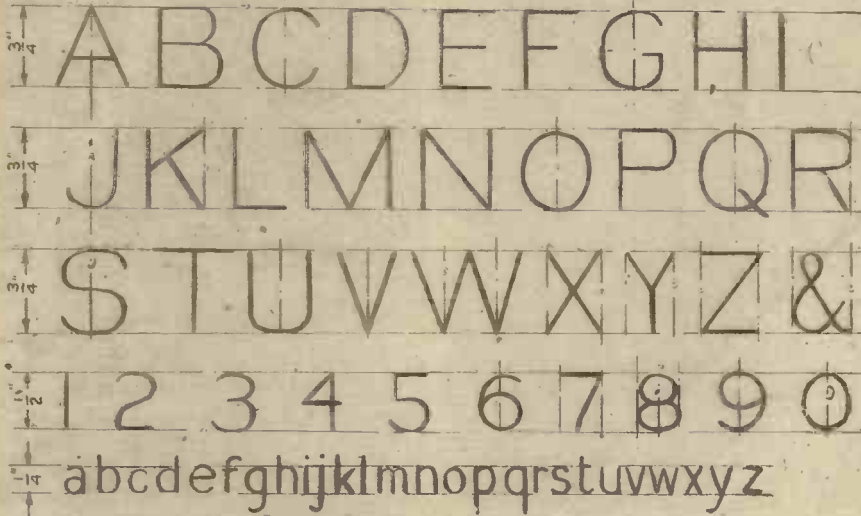

Fig. 3.—An exercise in lettering.
4. Practise the 26 letters of the alphabet in block capitals upright about 3/4in. high. (See Fig. 3.)
5. Practise the numerals 1 to 9 in block figures 1/2in. high. (Fig. 3.)